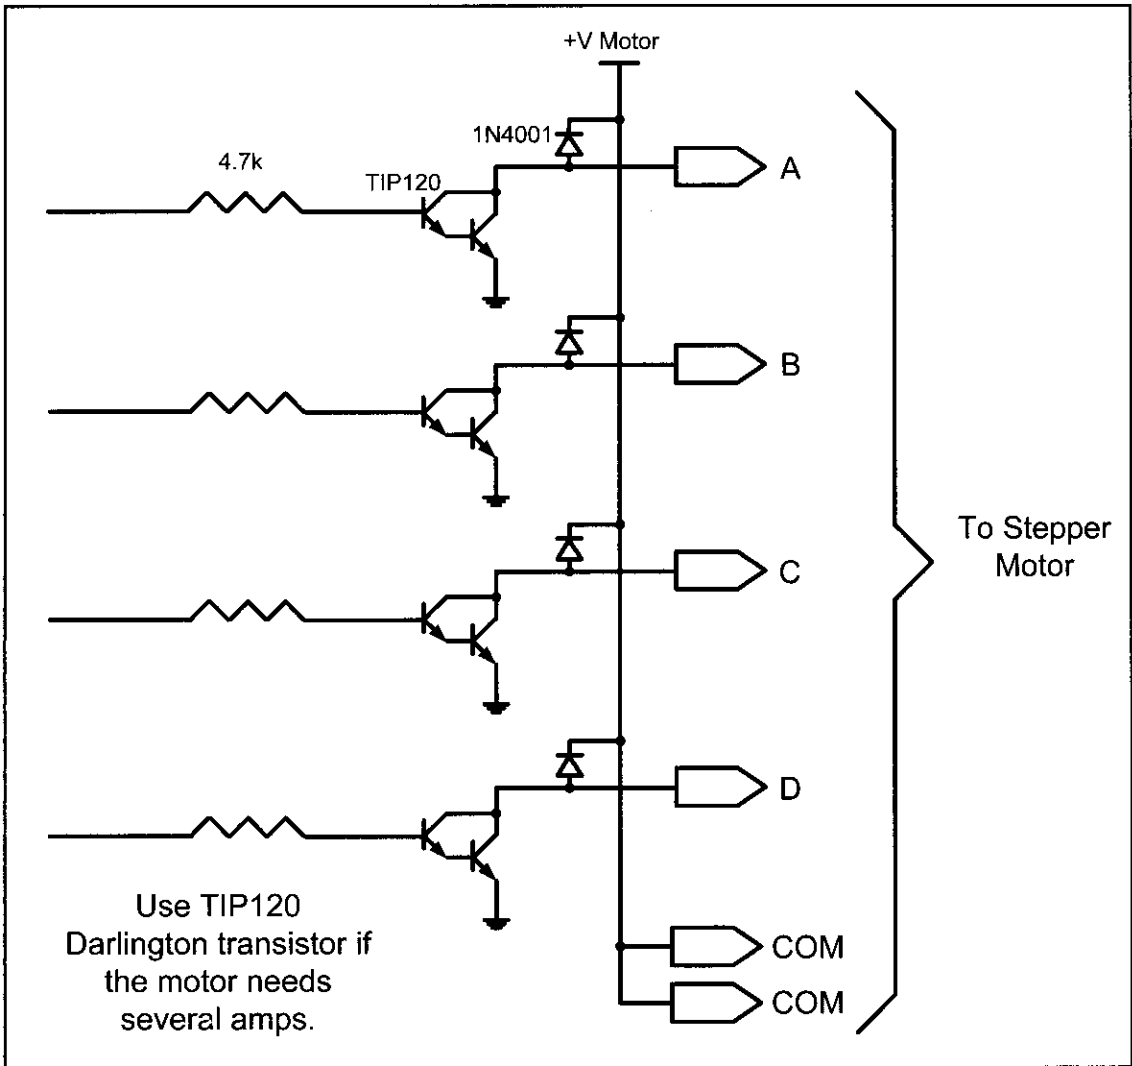

Figure 17-11. Using Transistors for Stepper Motor Driver
3. The four leads of the stator winding are controlled by four bits of the PIC18 port (RB0–RB3). Because the PIC18 lacks sufficient current to drive the stepper motor windings, we must use a driver such as the ULN2003 to energize the stator. Instead of the ULN2003, we could have used transistors as drivers, as shown in Figure 17-11. However, notice that if transistors are used as drivers, we must also use diodes to take care of inductive current generated when the coil is turned off. One reason that using the ULN2003 is preferable to the use of transistors as drivers is that the ULN2003 has an internal diode to take care of back EMF.
Unipolar stepper motors can be controlled using the basic interfacing shown in Figure 17-11, whereas the bipolar stepper requires H-Bridge circuitry. Bipolar stepper motors require a higher operational current than the unipolar; the advantage of this is a higher holding torque.
Figure 17-11 shows an interface to a unipolar stepper motor using transistors. Diodes are used to reduce the back EMF spike created when the coils are energized and de-energized, similar to the electromechanical relays discussed earlier. TIP transistors can be used to supply higher current to the motor. Table 17-8 lists the common industrial Darlington transistors. These transistors can accommodate higher voltages and currents.